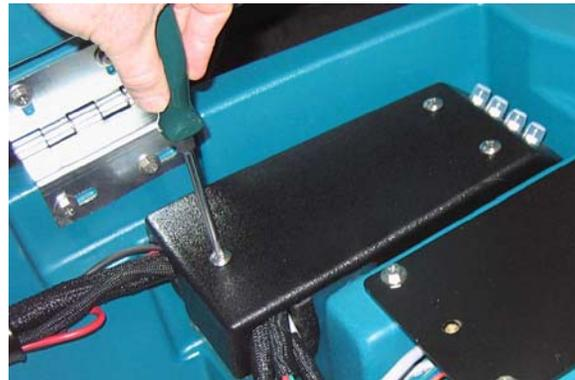

Fig. 15
12. Replace circuit breaker box cover (Figure 15).